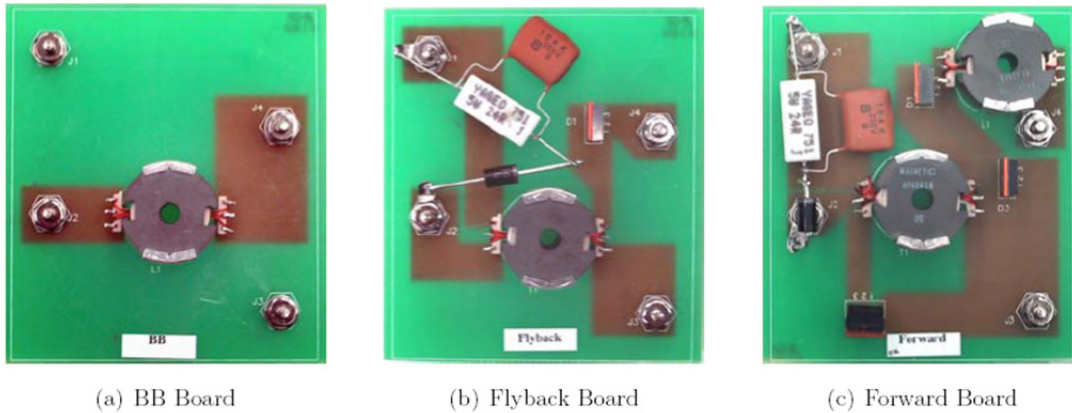

Figure 1.3: Magnetics Boards
1. BB Board (Fig. 1.3(a)): For the buck, boost and buck-boost converters
2. Flyback Board (Fig. 1.3(b)): For the flyback converter
3. Forward Board (Fig. 1.3(c)): For the forward converter